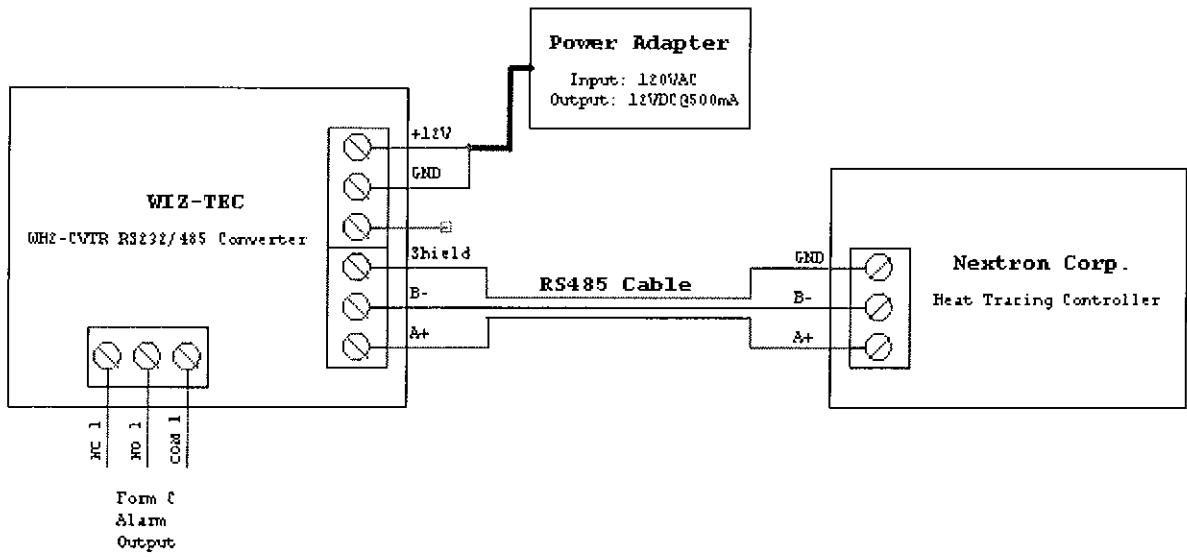

Fig. 2 RS232/RS485 Converter Wiring Diagram
(1) A RS232/RS485 converter is needed for communication signal conversion between each com port on the PC and the heat-tracing controllers. Make sure the wire connection is correct. **Fig. 2** is the wiring diagram for the RS232/RS485 converters from WIZ-TEC Computing Technologies Inc.
(2) Select the COM port.
(3) Select the desired baud rate. For the COM port which is not connecting to any controllers, its baud rate should be set to None.
(4) Select the proper protocol. If a Com port is connected to the controllers with Modbus protocol (firmwares MSxx.Dxx), choose Modbus D